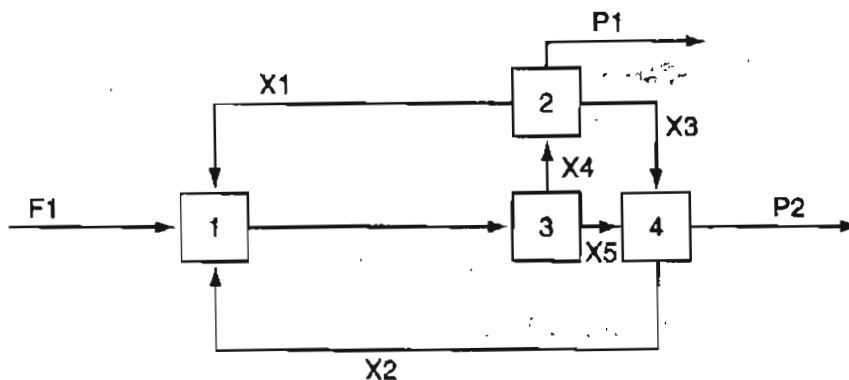

Figure SAT12.1P1
1. How many recycle streams occur in Figure SAT12.1P1?
2. The Hooker Chemical Corporation operates a process in Michigan for the purification of HCl. Figure SAT12.1P2 shows the flow sheet for the Hooker process. The streams from the bottoms of the five towers are liquid. The streams from the tops of the towers are gases. HCl is insoluble in the HCB (hexachlorobutadiene). The various stream compositions are shown in Figure SAT12.1P2.